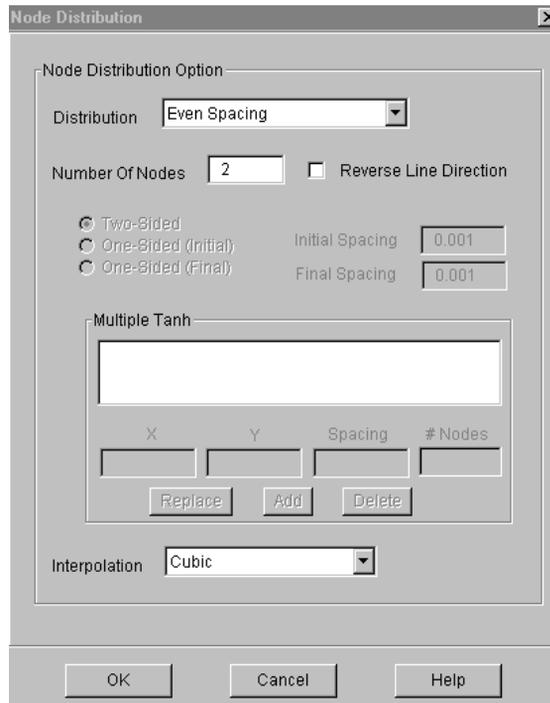

Figure 1-4. The Node Distribution dialog.
6. Now click Node Distribution on the Polyline dialog. This will call up the Node Distribution dialog, shown in Figure 1-4. In the Node Distribution area, set the Distribution drop-down to Even Spacing. Next, set Number Of Nodes to 30. Accept all other default values and click OK.